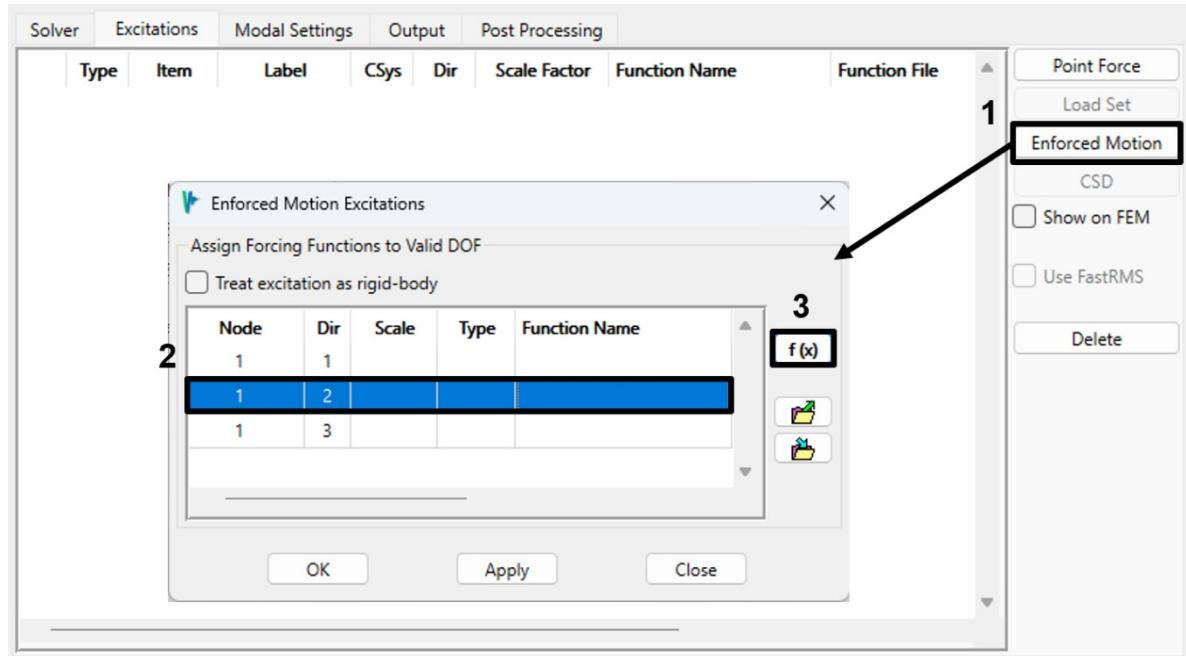

Figure 4-126. Apply the base excitation to the Y degree of freedom.
5. Go to the *Excitations* tab and create a displacement enforced motion at the base node in the Y direction. Apply the excitation at node 1, DOF 2 (Figure 4-126).
6. With the *Enforced Motion Excitations* dialog set per Figure 4-126, use the  button to bring up the Function Manager. To create a sine-sweep function, you must